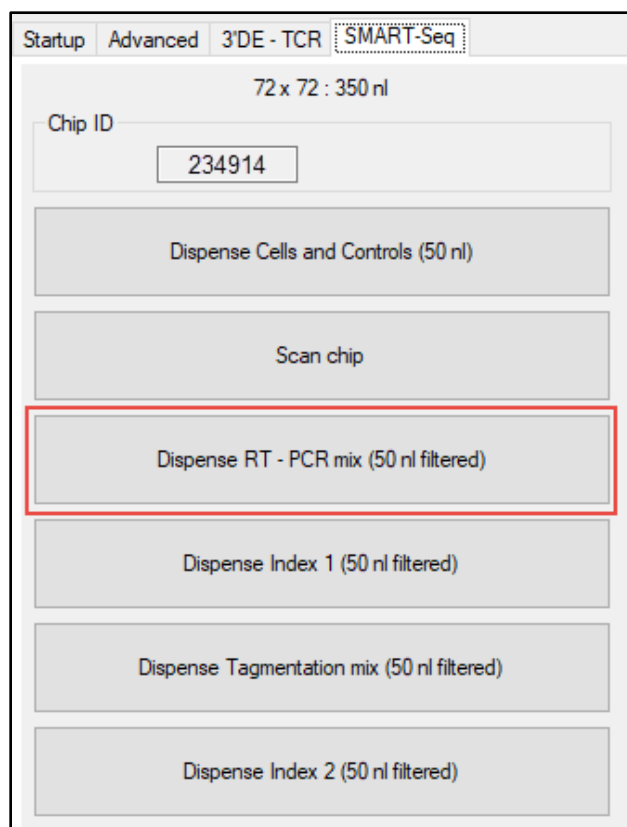

Figure 14. Using CELLSTUDIO software to dispense the RT - PCR mix.
- b. At step 6, click the [Dispense RT - PCR mix] button (Figure 14).